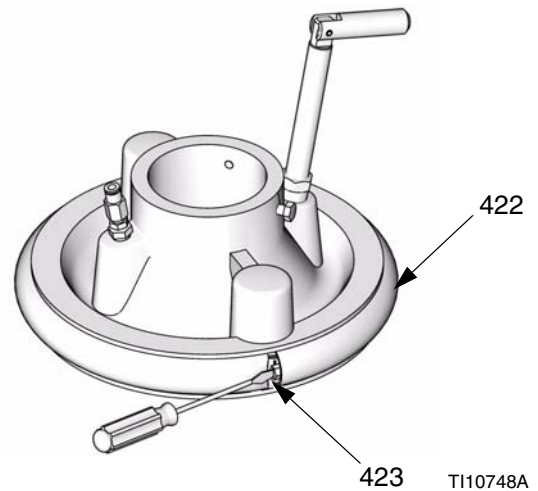

FIG. 15
2. For tire wipers, 255659 only see FIG. 15:
- a. Separate wiper (422) joint enough to bend back strapping that covers the worm gear clamp (423). See FIG. 15.
- b. Unscrew worm gear (423) and remove wiper (422).